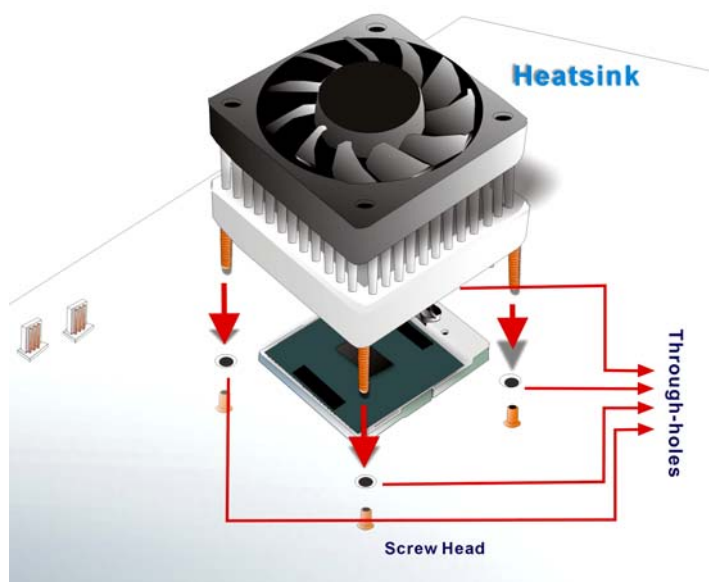

Figure 4-4: Securing the Cooling Kit
- Step 3:** **Secure the cooling kit.** From the solder side of the PCB, align the provided nut caps to the heatsink screw threads that protrude through the PCB holes. Without over tightening the nut caps, insert them onto the protruding screw threads to secure the cooling kit to the PCB board. (See **Figure 4-4**)